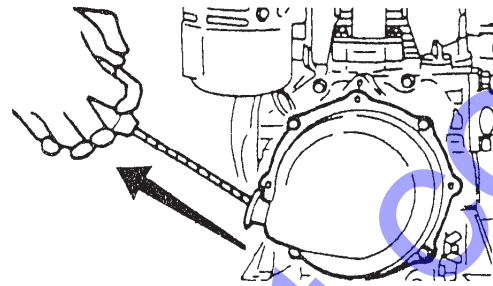

Figure 20. Engine Start Handle
- Grasp the starter grip (Figure 20) and slowly pull it out. The resistance becomes the hardest at a certain position, corresponding to the compression point. Pull the starter briskly and smoothly for starting.